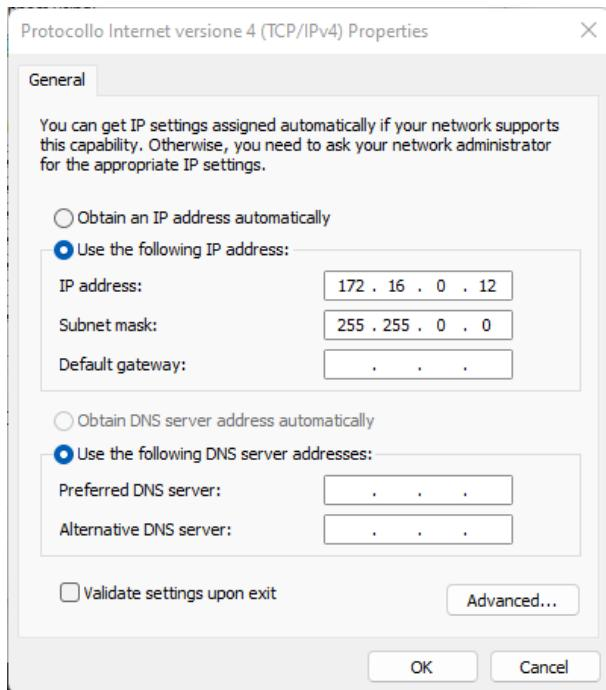

Fig. 8.13: "Internet Protocol Version (TCP/IPv4) Properties" window.
- e. Copy the configuration in **Fig. 8.13** on the "Internet Protocol Version (TCP/IPv4) Properties" window and press "OK". If the IP Address is already in use, try with another one of the same Subnet mask.